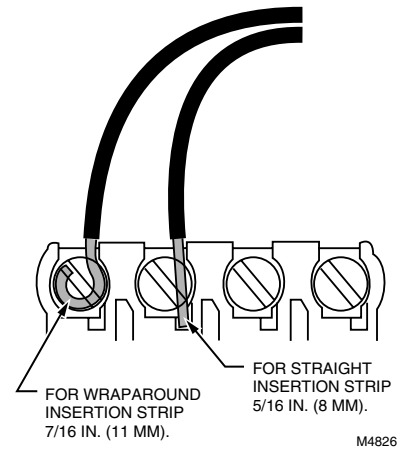

Fig. 4. Proper wiring technique.
1. Loosen the terminal screws on the wallplate and connect the system wires. See Fig. 4